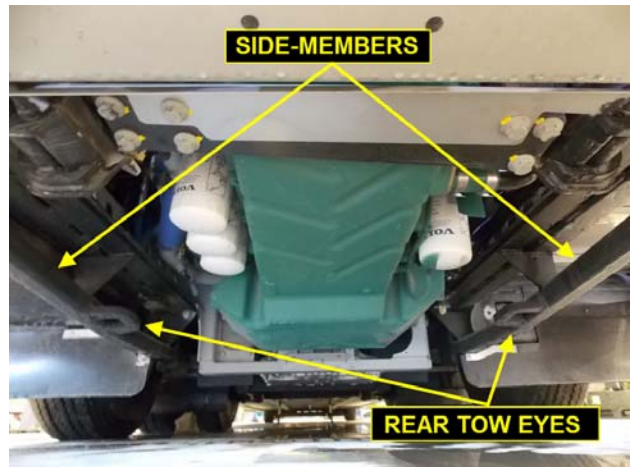

FIG.60 REAR TOW EYES ON SIDE-MEMBERS LOCATED UNDER ENGINE CRADLE SUPPORT RAILS
5. Deploy the tow truck stinger arm. Place the axle forks under the rear tow eyes if equipped or under the side-members (fig.60 & 61).